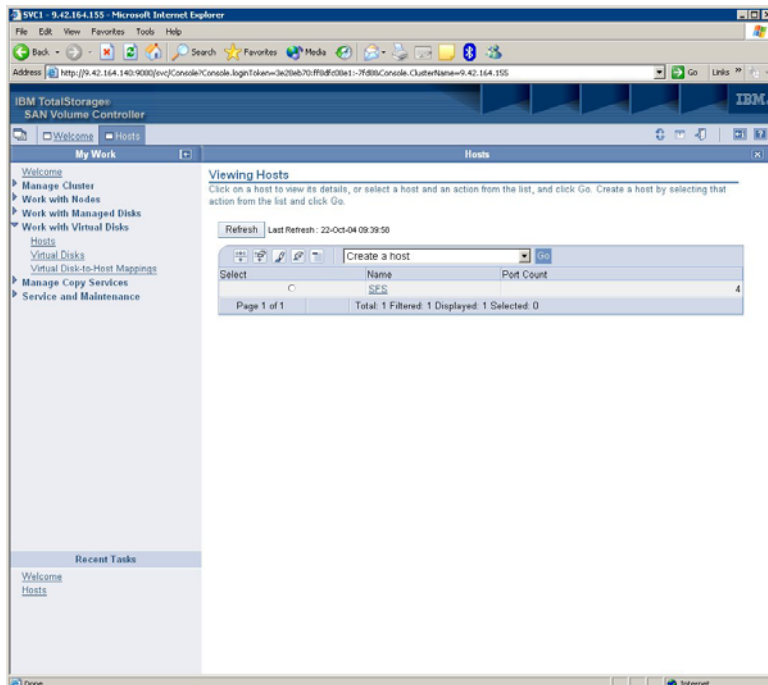

Figure 9. – Create Host
6. Create a host with WWPN from the HBA in the Blade. To do this, click on <Work with virtual disks> and then select <Hosts>. Select <Create Host>, as shown in figure 9 below. Follow the wizard to create the host and assign the WWPN from the Blade.